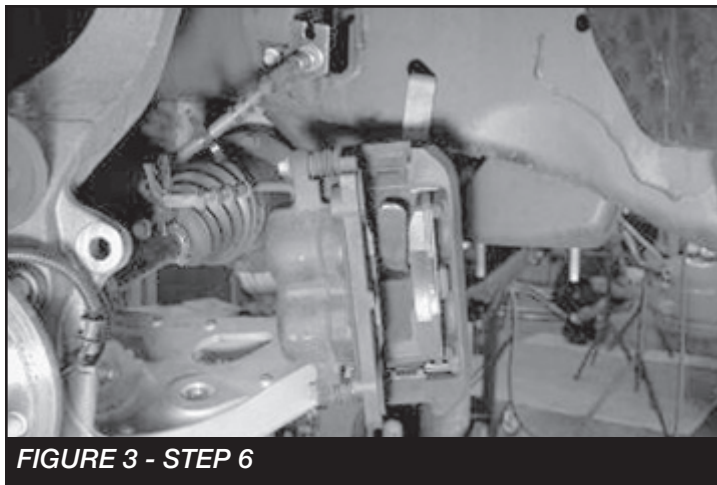

FIGURE 3 - STEP 6
6. Remove the brake caliper and place it next to the frame. Do not overstretch the brake hose when doing so. Retain the hardware for reinstallation. Remove the brake rotor and save. Disconnect the vacuum lines attached to the rear of the hub assembly. Allow the vacuum lines to hang freely. Remove the electronic stability control (ESC) sensor from the top of the hub. Cover the sensor to keep it free from dirt and debris. **SEE FIGURE 3**